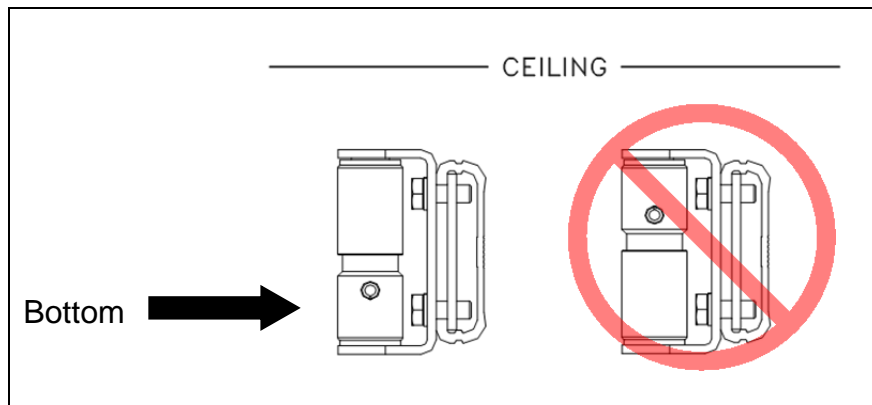

Figure 12
- 3) Insert the pivoting rail attachment into the wall plate. Make sure that the bracket is placed properly (see Figure 12).